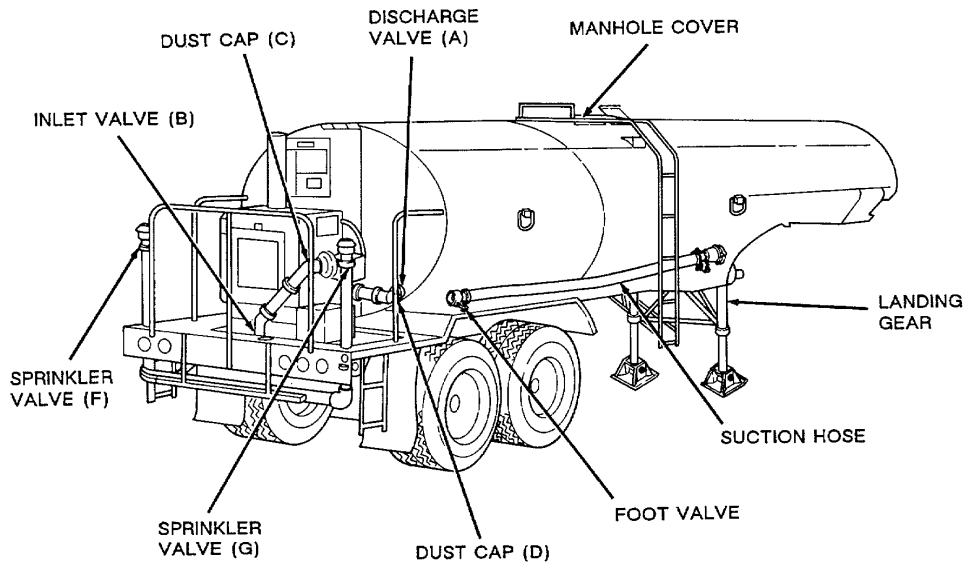
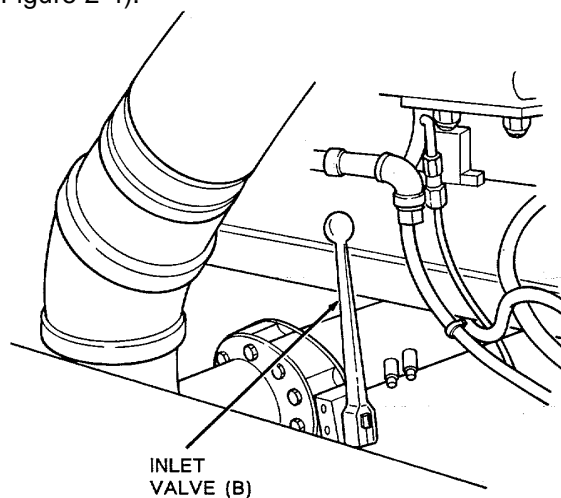
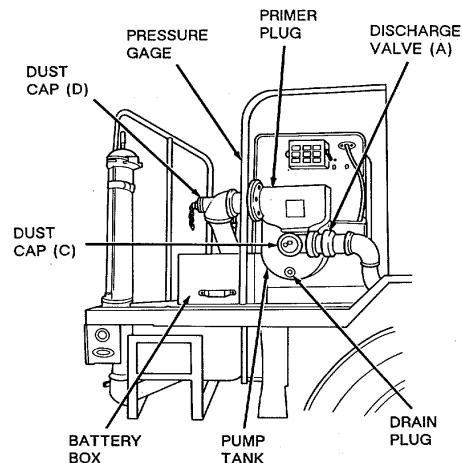

Figure 2-3. Water Distributor.
Figure 2-4. Inlet Valve (B).
Figure 2-5. Water Distributor Pump.
- b. String suction hose (see Figure 2-3) from the water supply to the water distributor pump. Ensure that the hose coupling gaskets are in place and that the foot valve is submerged in the water supply.
- c. Remove the 4 in. (10.2 cm) dust cap (C) and connect the suction hose to the pump.
- e. Close the discharge valve (A).
- f. Open the inlet valve (B, Figure 2-4).
- g. Fill the water distributor pump tank with water to prime it (see Figure 2-5).
(4) Push the starter switch (9) until the engine starts.
(5) Adjust the engine idle speed with the throttle control (3). The idle speed should be 700-1000 rpm.
i. Adjust the throttle control (3) to approximately 2900 rpm and fill the water distributor tank.
j. When the water distributor tank is full, adjust the throttle control (3) to 700-1000 rpm.
k. Close the inlet valve (B, Figure 2-4).
- m. Remove the foot valve (see Figure 2-3) from the water supply and clean debris from it.
- p. Install inlet pump strainer and 4 in. (10.2 cm) dust cap (C, Figure 2-5).
- c. Adjust the engine speed to approximately 2900 rpm and observe the spray pattern from the sprinkler valves (F and G, Figure 2-3). If the spray pattern is acceptable, go to step e.
- (1) Adjust the engine speed to 700 rpm.
- (2) Close the sprinkler valves (F and G).
- (3) Adjust the spray width.
- (b) Turn the nozzle adjusting band (9) to the required position.
- (c) Tighten thumbscrew (11).
- (d) Open the sprinkler valves (F and G, Figure 2-3).
- (4) Adjust the spray overlap.
- a. Remove the 1.5 in. (3.8 cm) dust cap (D, Figure 2-5) from the pump.
- (1) Open the discharge valve (A).
- (2) Close the inlet valve (B, Figure 2-4).
- (3) Ensure that the sprinkler valves (F and G, Figure 2-3) are closed.
- (4) Start the water distributor engine (see paragraph 2-6h).
- (5) Spray the fire.
- (1) Remove the 4 in. (10.2 cm) dust cap (C, Figure 2-3).
- (2) Connect the 4 in. (10.2 cm) suction hose to the pump and set the other end in the water source.
- (3) Close the discharge valve (A).
- (4) Close the inlet valve (B).